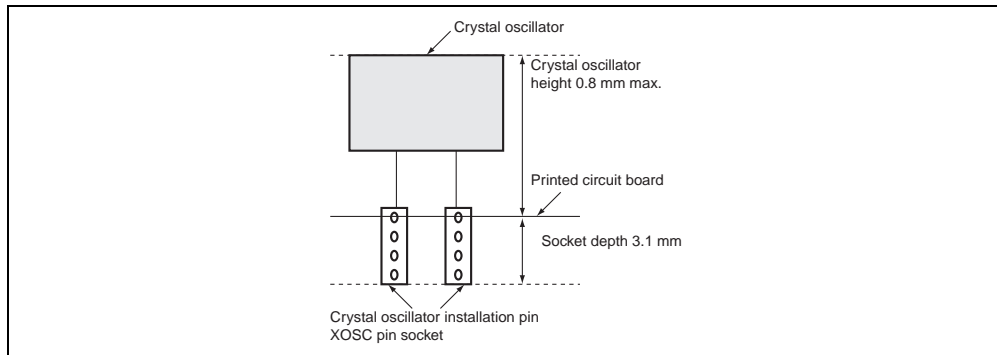

Figure 7.12 Dimensions for Installation of the Crystal Oscillator
4. The dimensions for installing the crystal oscillator are shown in figure 7.12.